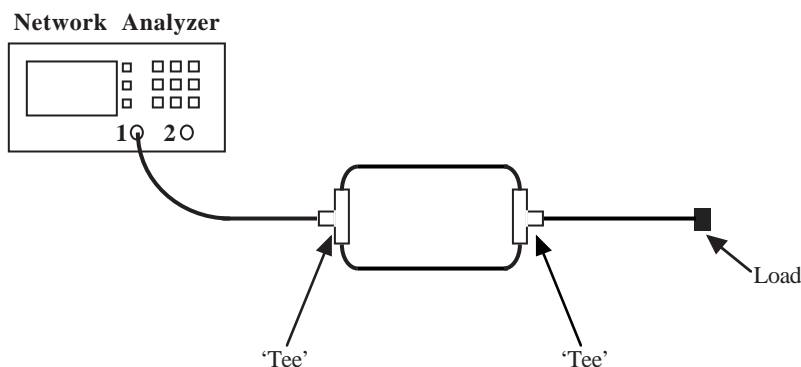

Figure 4-14: Block diagram of the setup for network #2
3. Attach the arms of a second “Tee” between the ends of the two co-axial cables. Attach the other co-axial cable to the third arm of the second “Tee” as shown in Fig. 4-14.